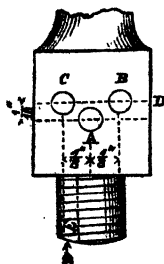

FIG. 34. (Full size.)
* The plan and elevation are drawn to 3-in. scale, or quarter size, and the details to 6-in. scale, or half size. Fig. 34 showing steam-ports in standard is engraved full size.
The standards (Fig. 32) should be made now. It will be found that the easiest way of making these will be in the form of two pillars or columns, which can easily be turned out of a piece of brass or iron rod $\frac{3}{8}$ in. square. The base should be $\frac{9}{16}$ in. square, with a smaller end or stud projecting, $\frac{3}{8}$ in. diameter and $\frac{1}{4}$ in. long (these are to be fastened into the top of the boiler); the square part must extend $\frac{1}{8}$ in. up the pillar, when it may be turned down to a short distance from the head, which must be $\frac{3}{8}$ in. square. These columns must each be $2\frac{1}{8}$ in. from the under side of the shoulder to the centre of the hole for the crank-shaft. Care must be taken to make the faces of the square part exactly at right angles with the hole in the head. Now divide one of the faces of one of these pillars into two equal parts by means of a centre-line running through the middle of the column (Fig. 34). At a distance of $\frac{1}{8}$ in. from the shoulder drill a small hole, A, which will just admit of the insertion of the pin F, which was fixed in the cylinder-face. Then draw another line at right angles $\frac{1}{16}$ in. above this hole, and on this line $\frac{1}{8}$ in. from the centre mark two holes, right and left respectively, each of which is to be drilled as far as the centre